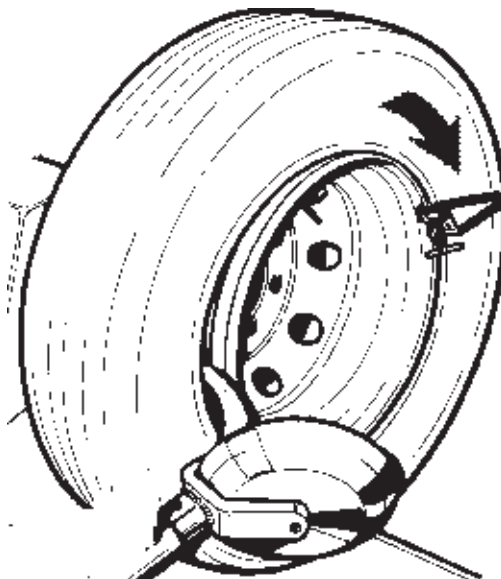

Fig.27
3. Reattach the mounting clamp to the rim flange with the valve after the mounting clamp, following the rotation direction (Fig.27).